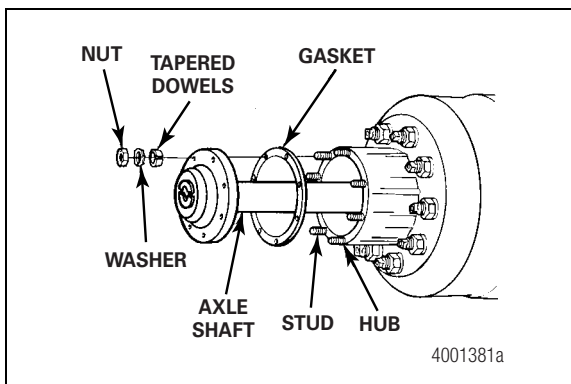

Figure 3.5
- For drive axles, remove the stud nuts and the washers from the flanges of both axle shafts. For center axles, remove the nuts and the washers from both hubcaps. Remove the hubcaps. Figure 3.5.
- Remove the tapered dowels and separate the axle shafts from the main axle hub assembly. Figure 3.5.